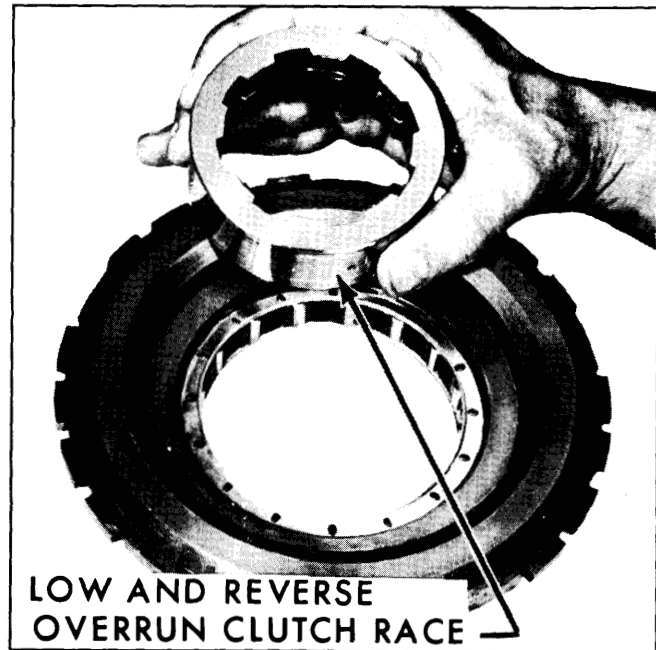

Fig. 7-92—Removing Overrun Clutch Inner Race
2. Remove low and reverse overrun clutch inner race form support. (Fig. 7-92)